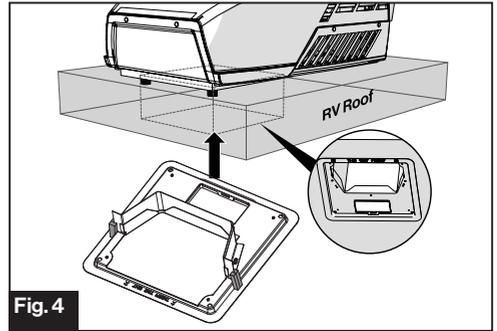

Fig. 4
3. Install the assembled mounting frame and the lower duct divider into the rooftop opening. Make sure the "THIS WAY FRONT" mark is facing front (the direction of the vehicle) while installing. (Fig. 4)